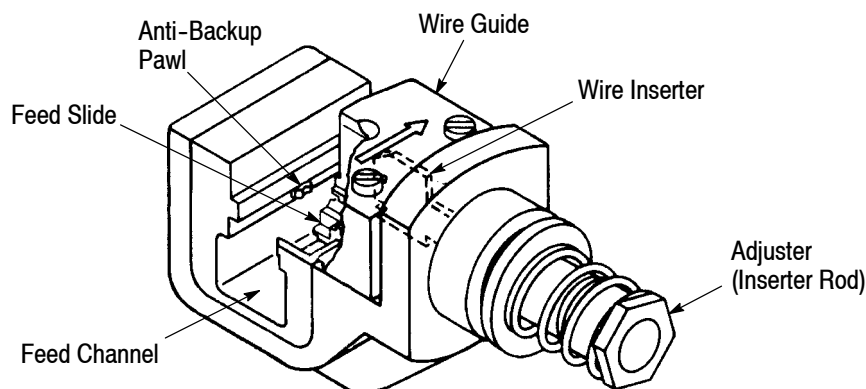

Figure 1
2. DESCRIPTION (Figure 1)
If the connector cannot be inserted into the head, the connector is too loose in the head, or the connector housing is damaged after termination, refer to Figure 1, and adjust the wire guide as follows: